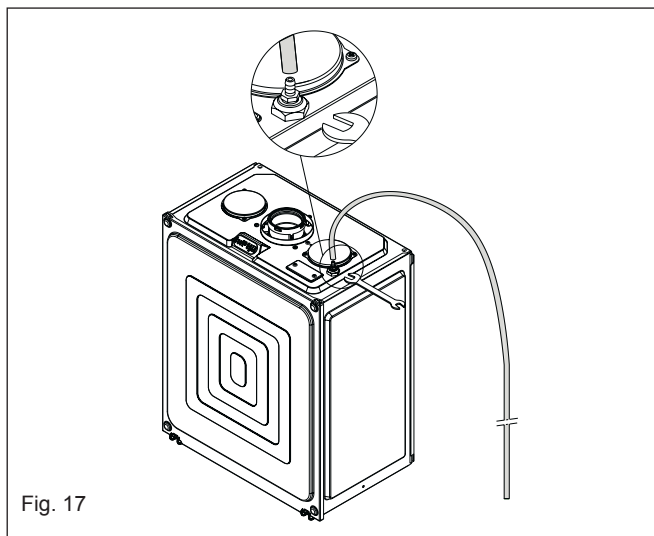

Fig. 17
5.3.1 MANUAL AIR RELEASE (fig. 17)